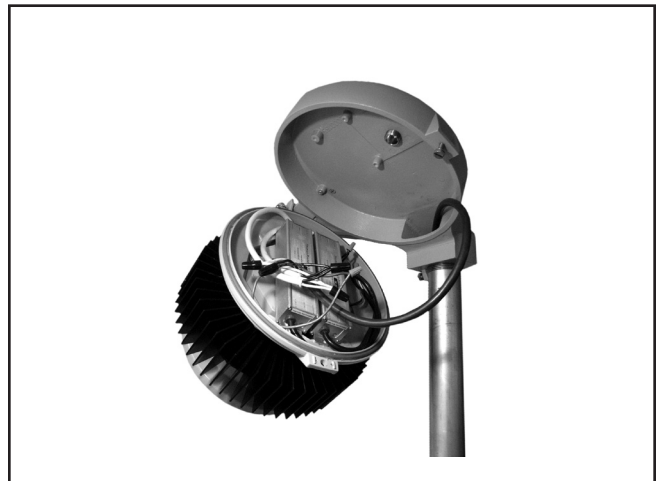

Figure 2.
3. Hang LED luminaire on the cover module hinge hook (Figure 2.).